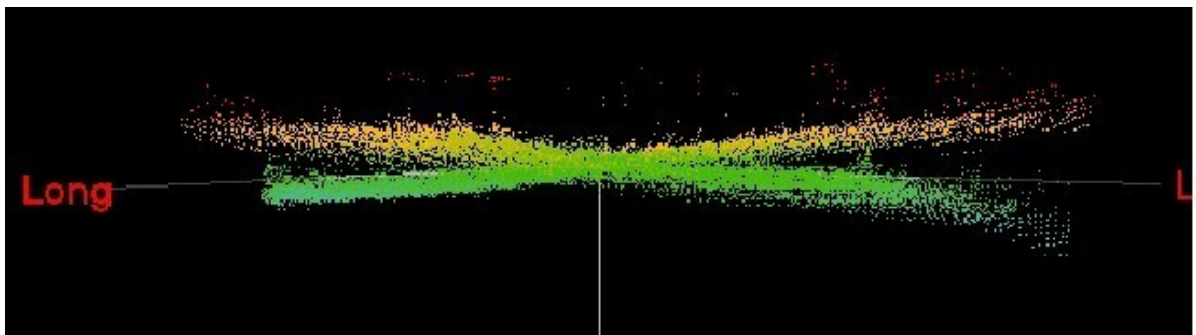

Figure 2. Side view of raw georeferenced roll calibration data displaying the effects of a roll bias between the navigation coordinate system and the 3D sensor.
4. The 3D data can then be displayed in the IPS 3D Viewer to visually verify that the new mounting angle improved the overall data quality. Figures 2 and 3 show the before and after 3D plots from a roll test.